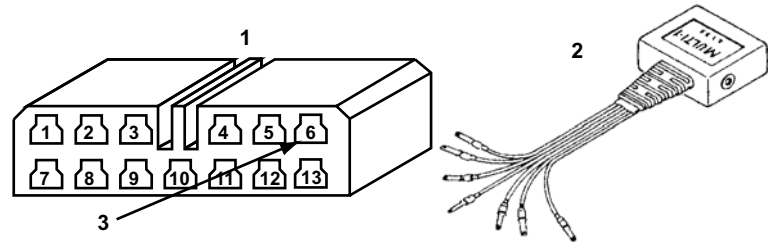

Figure 15-23 13-pin Check connector
- b. If your Check connector is yellow in color, connect the blue wire of the MULTI-1 adapter to pin 6 of the Check connector (Figure 15-23).